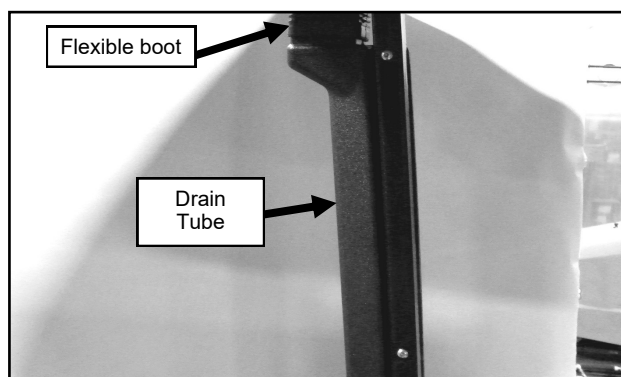

Fig. 3.13 (drain tube - left side)
**3.13** Re-install the previously removed drain tubes and drain tube flexible boots, per figure 3.13. Making sure to reconnect the bottom of the drain tubes with the black corrugated tubes inside the vehicle.